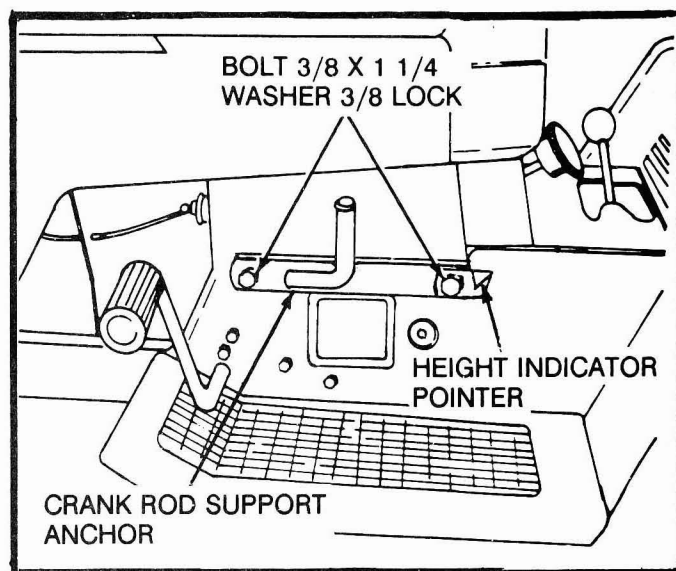

FIG. 5
- Position the Crank Rod Support Anchor over the two holes and secure it with one 3/8 lock washer and one 3/8 x 1 1/4" bolt in the front hole (See Fig 5)